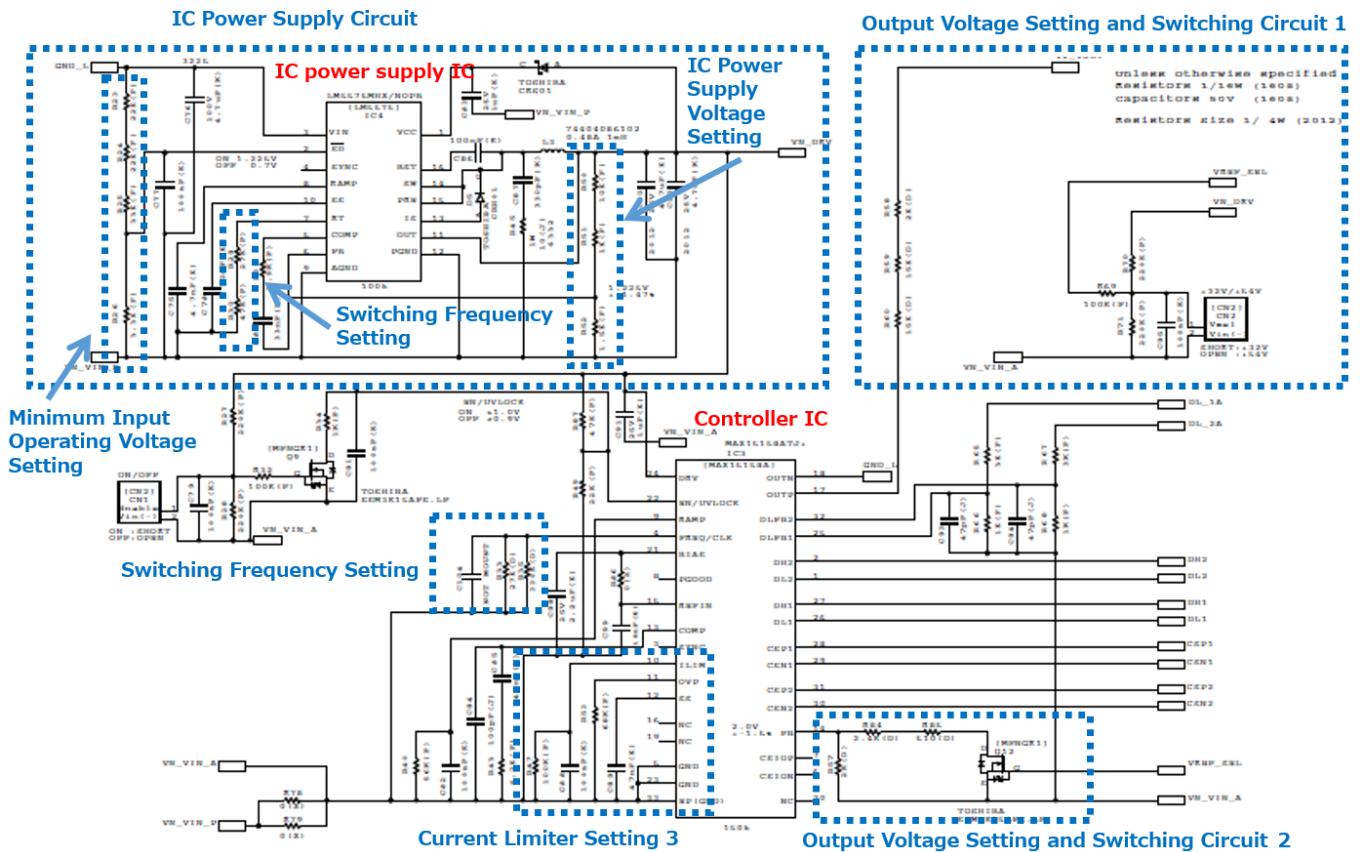

Fig. 3.3 Controller IC, IC Power Supply Circuit, and Output Voltage Setting and Switching Circuit
Fig.3.3 shows the controller IC, IC power supply circuit, and output voltage switching circuit. It also shows the output voltage setting and switching circuit, switching frequency setting circuit, and current limiter setting circuit (3).